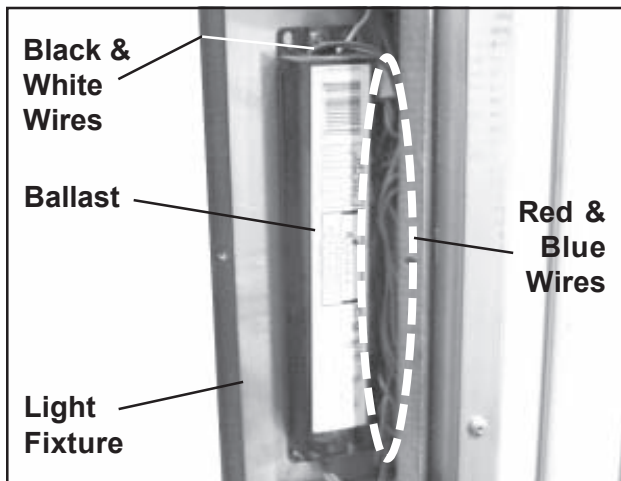

Figure 27. Ballast Inside the Right Column
5. A group of red and blue wires is bunched alongside the ballast inside the fixture (Figure 27). Pull these wires out of the fixture so you can work with them.
5. Bundle the red and blue wires neatly and bunch them between the ballast and the side wall of the fixture (Figure 27).